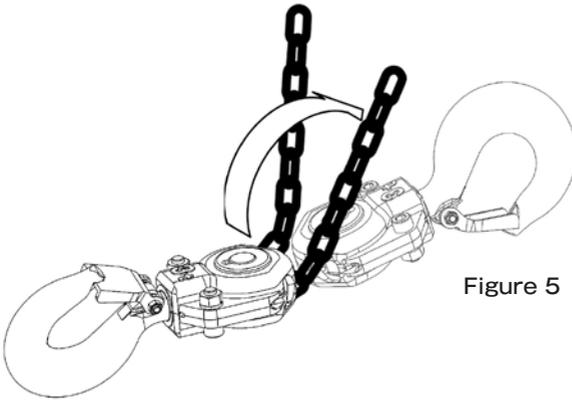
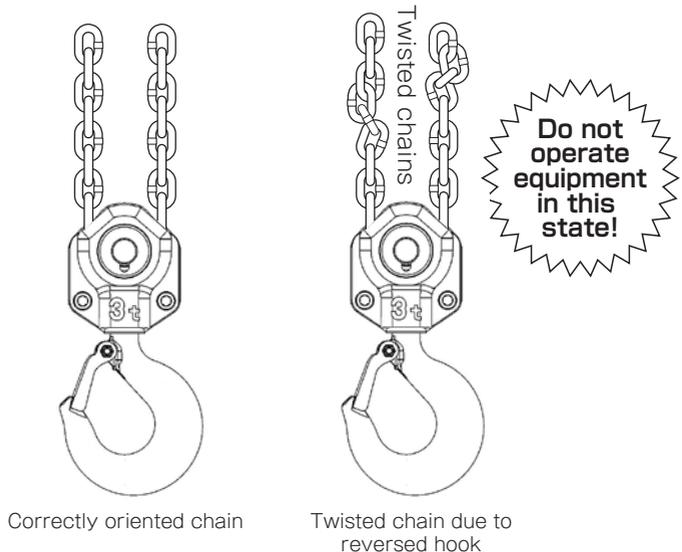

Figure 5
Figure 6
- (1) Do not put a load on the load chain on the no-load side. Make sure that no load is applied to the no-load side.
- (2) Before operating the equipment, make sure the load chain is not twisted or tangled. Hook for 3t (2 falls) and 5t (3 falls) are multiple falls hook. Make sure the hooks are not reversed. Be sure to correct any problems before using this equipment. (Figure 5, Figure 6)